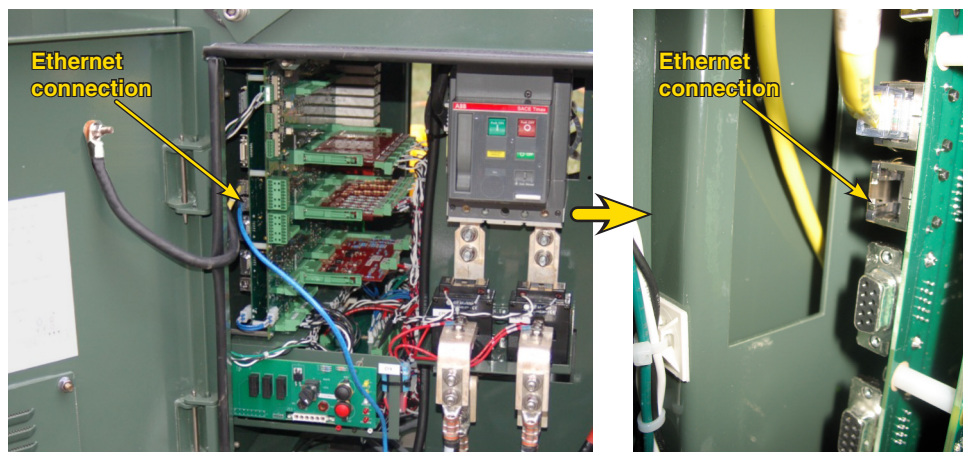

Figure 11. Ethernet connection location.
1. Connect the PC to the Ethernet port as shown in Figure 11.